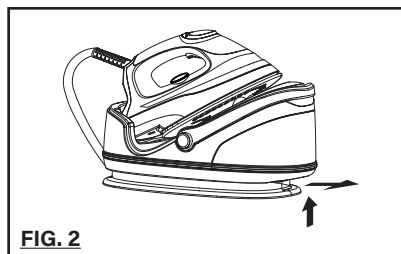

FIG. 2
Step 1 - Press the water tank lock upwards and slide the detachable water tank outwards from the base. (Fig. 2)